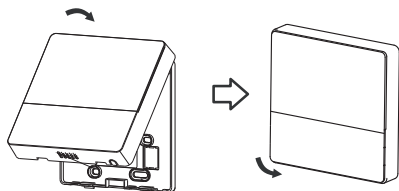

Fig 3-13
- Place the case on the upper mounts, then carefully click into place, being careful not to pinch the wiring. (Fig 3-13)